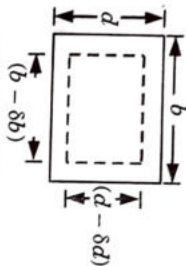

Fig. 1.3.2.
2. Let a rectangular bar of length, L , breadth, b and depth, d is subjected to an axial tensile load, P as shown in Fig. 1.3.2. The length of the bar will increase while the breadth and depth will decrease.